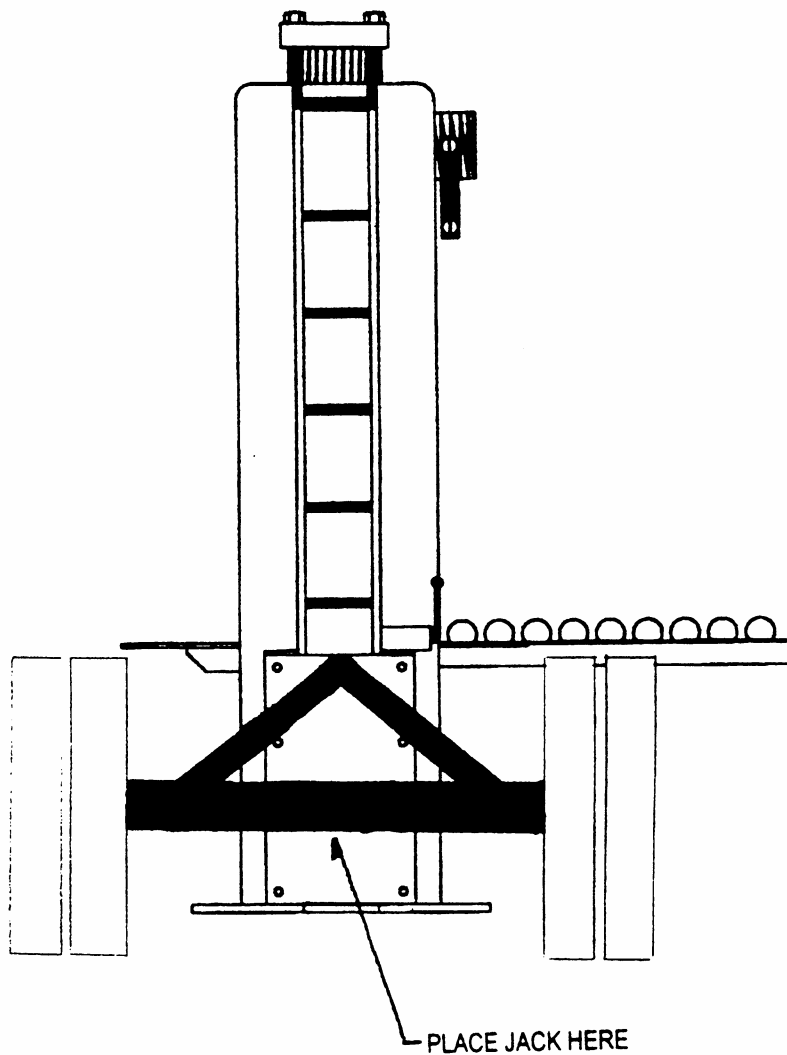

FIGURE 3
- 5- With the tongue end of the splitter placed down on a hard level surface, place the jack in the center of the axle as shown in Fig. 3. Raise the axle end until the weight of the splitter comes off the tires. It is not necessary to raise the tires completely off the ground. Do not raise the Chris Cutter any higher than is absolutely necessary.